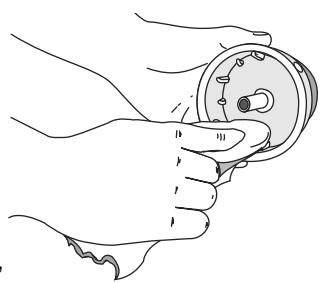

Fig. 15
4. Use a clean cloth to clean the inner reel, spring, shaft and inner surface of the outer spool (Fig. 15).